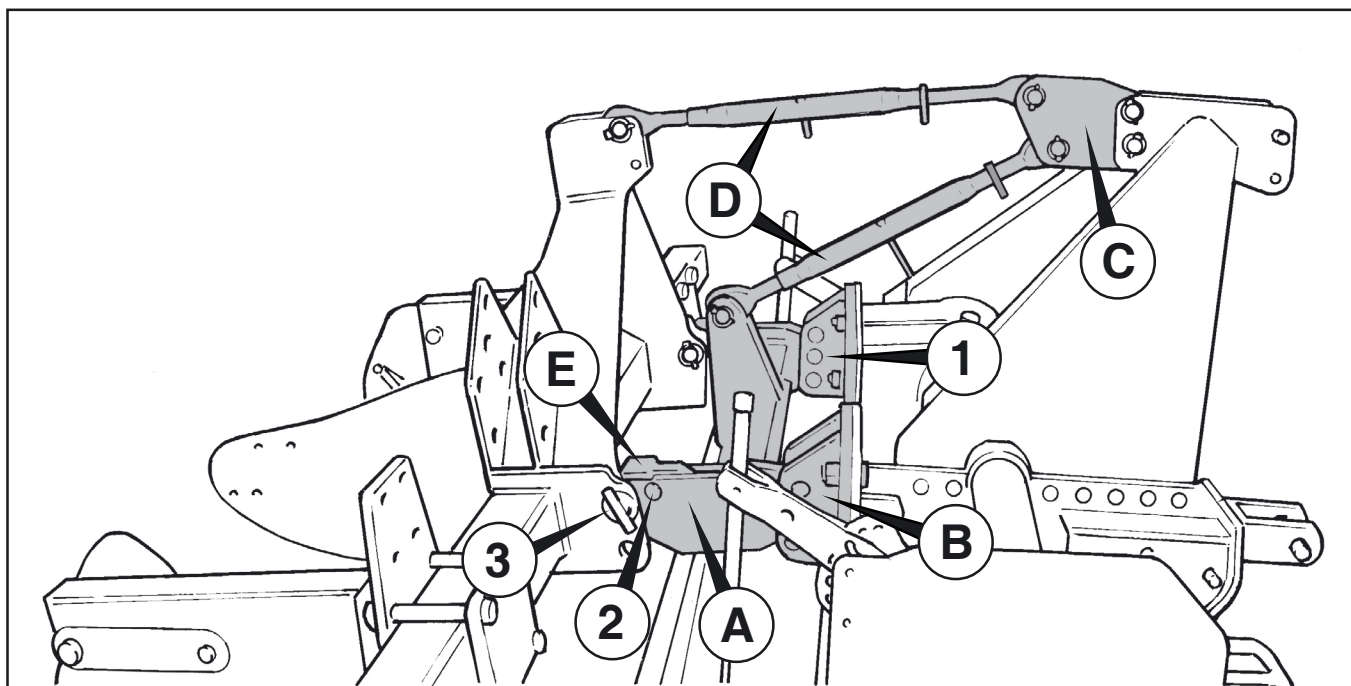

Fig 10
Before coupling to the Bed Tiller the linkage kit should be fitted to the Tiller as shown, Fig 10.
The kit consists of linkage mount frames, Fig 10 (A), mount brackets (B), top link extension brackets (C), top links (D), latches (E), and all necessary pins and bolts.
Fit the pivot pins in either of the 3 height adjustment holes in the mount brackets, Fig 10:1.
Remove the latch retaining bolts, and raise latches ready to mount the Bedmaker, Fig 10:2.
Fit lower link pins to the Bedmaker, in either upper or lower holes, Fig 10:3.